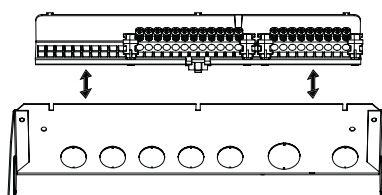

fig 6.
3. Pull and lift the terminal bar support away from the unit (fig 6.) resting the rail supported by the earth strap.